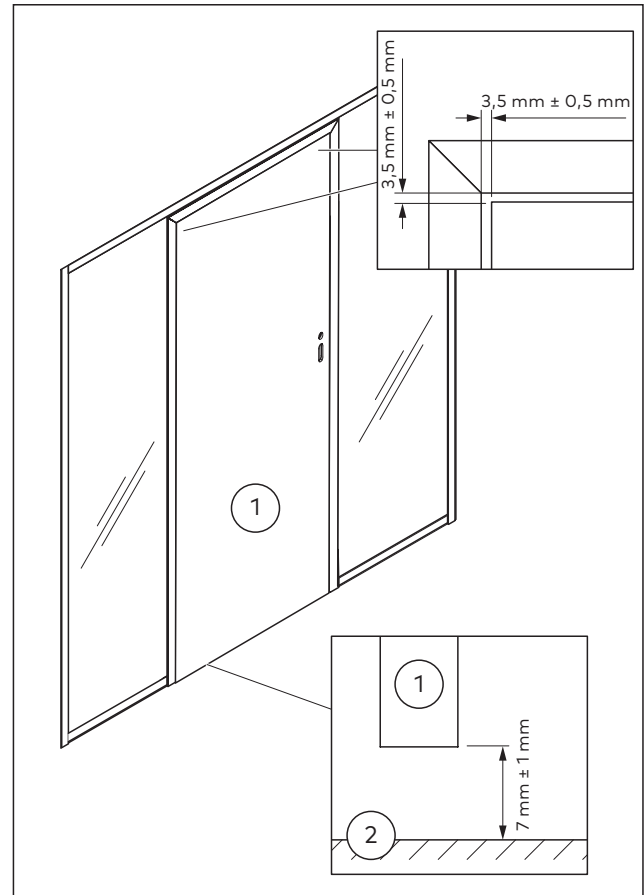

Fig. 16 Clearances in the door frame system
- Between wooden door and door frame on both sides 3.5 mm ± 0.5 mm (Fig. 16)
- Between wooden door and finished floor level (FFL) 7 mm ± 1 mm (Fig. 16)